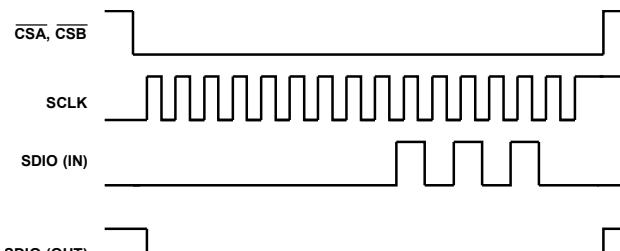
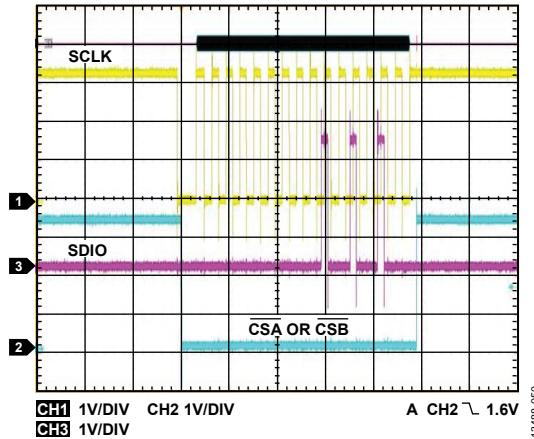
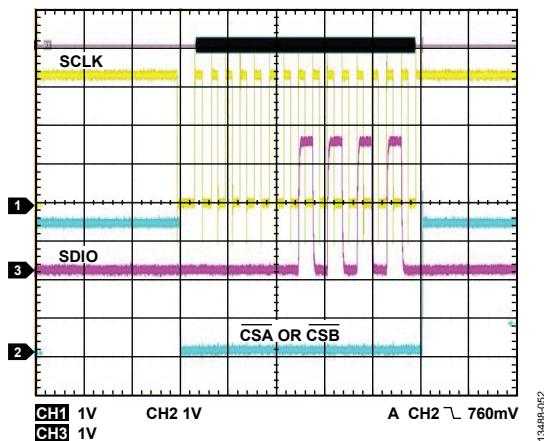

Figure 54. Write Gain Control Word
Figure 57. Write Gain Control Value, 0x0054
Figure 59. Read Back Value, 0x0154
The ADL5205 can be read back only in the serial mode, during a read cycle (from CSA/CSB low to CSA/CSB high) after the R/W bit is set high in the previous cycle. During the read cycle, data changes at each rising edge of SCLK, and can be latched using the falling edge of SCLK. There is no continual read operation. A logic high (1) must be written into the R/W bit to enable the subsequent read cycle. The sequence for reading back is shown in Figure 54 to Figure 57, showing the operation of the input and output functions of the SDIO pin. The actual waveforms during the readback process are shown in Figure 57 to Figure 59. SDIO is enabled as an output only during the read cycle in Figure 57.